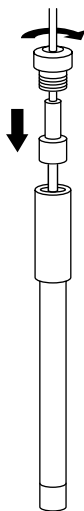

Fig. 12
12. Insert the inner body into the outer body. Ensure that the inner body is fully inserted in the top of the outer body and then screw on the electrode cap. See **Figure 12**.